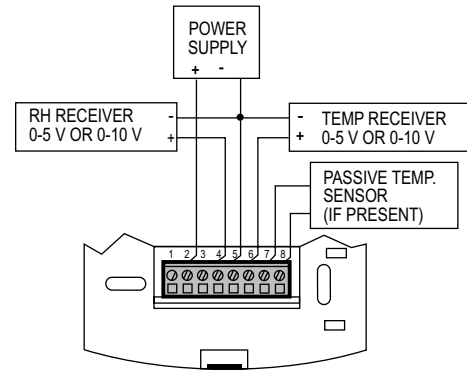

Figure 3
**Voltage Output Selected:** Voltage outputs may be powered with 15-35 VDC or 15-29 VAC. Note polarity when using DC power. Wire the RH voltage output as shown in Figure 3. If the unit has a voltage temperature output, wire the temperature receiver between terminal 6 and the negative terminal of the power supply. All units come with RH and Temperature voltage outputs. If the temperature or RH voltage output is not used it may be left disconnected. If the unit has a passive temperature sensor, wire to terminals 7 and 8.